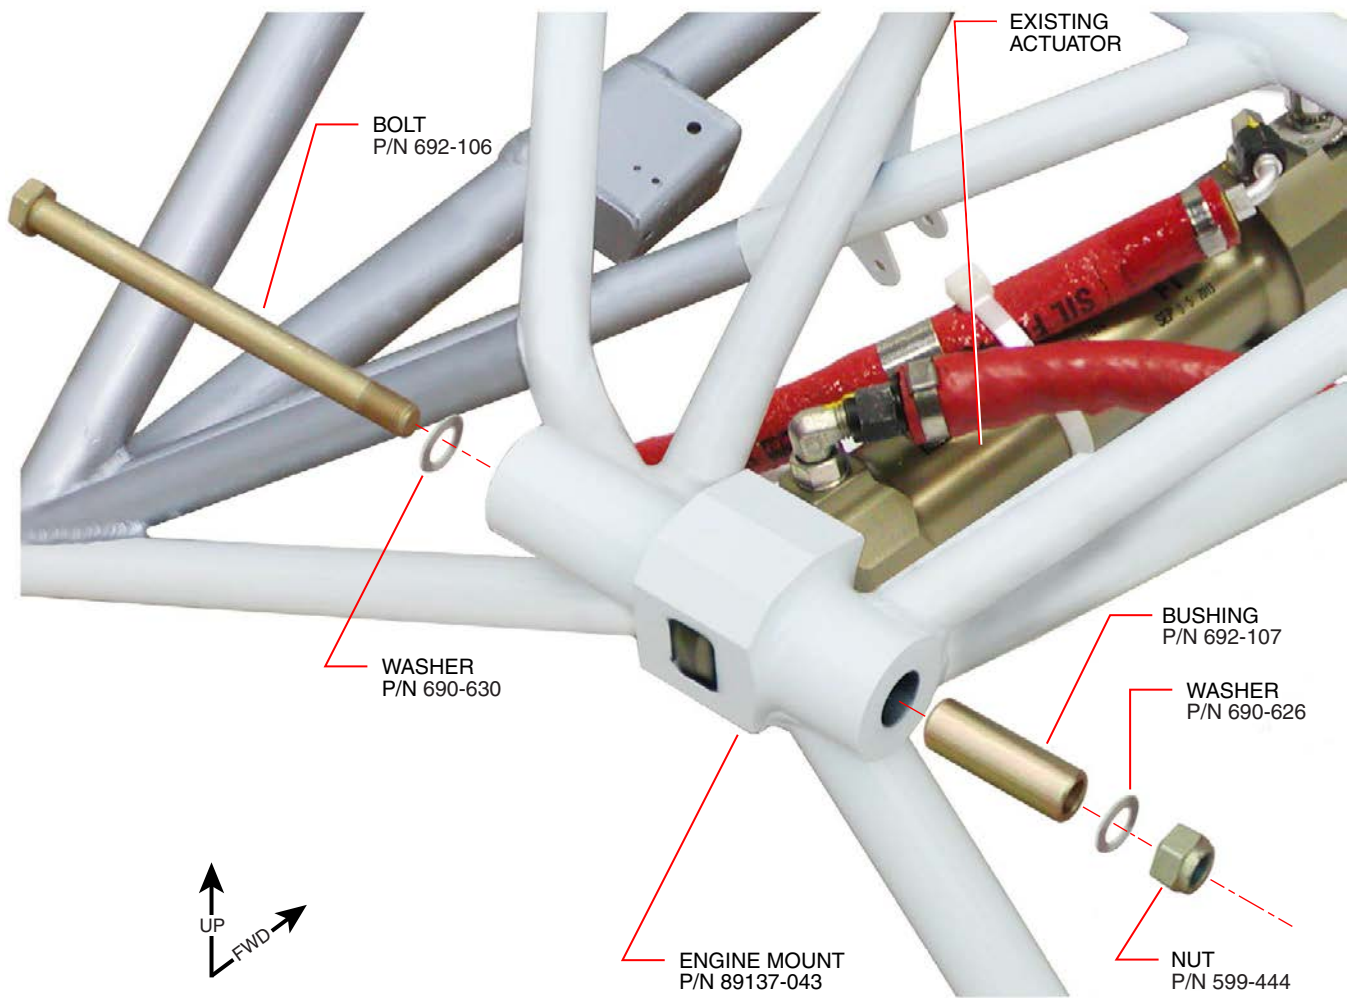

Figure 2
2. Install the new engine mount according to procedures in the applicable Piper airplane maintenance manual. For PA-46-350P Mirage or PA-46R-350T Matrix model airplanes only: fasten the aft end of the nose gear actuator to the engine mount using the hardware arrangement shown in Figure 2. Torque nut according to requirements in section 91-10-00 of the applicable Piper airplane maintenance manual. At all other locations, hardware in serviceable condition may be reused.